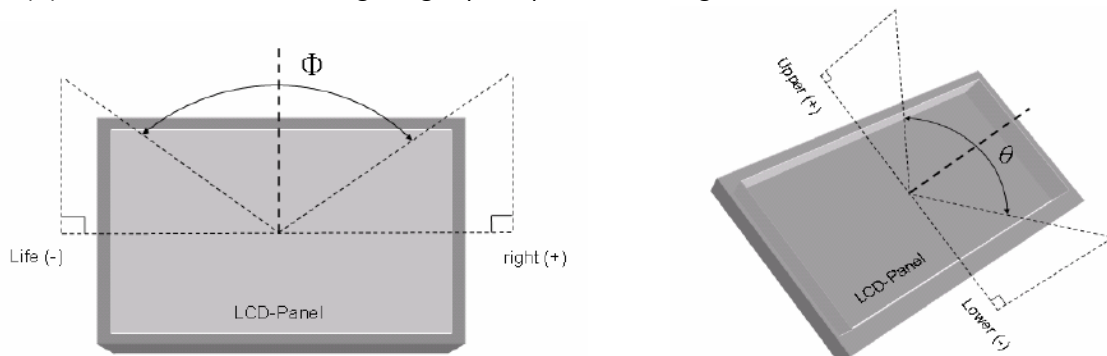

Fig9-2 Definition of Viewing Angle
Note(4) Definition of Viewing Angle(Θ, Φ), refer to Fig9-2 as below :